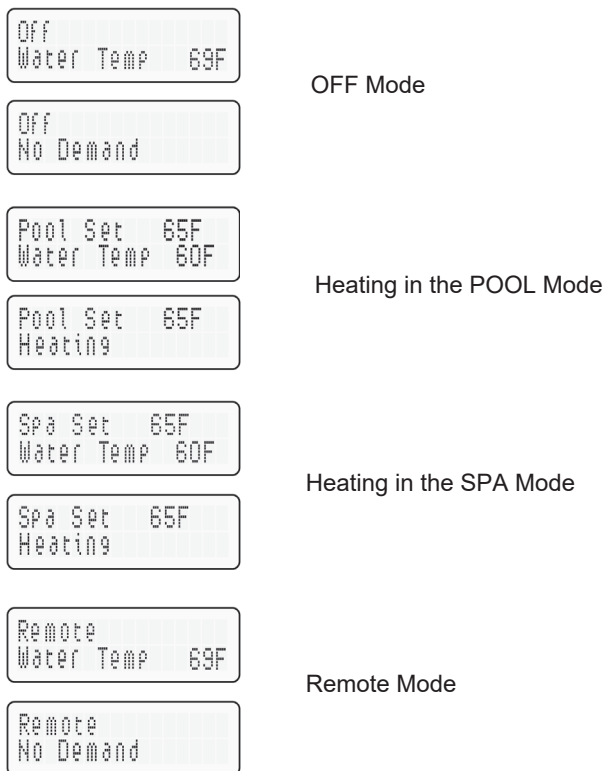

Figure 46. Remote Control Menu - Remote Operation
**⚠ CAUTION: Before installing remote controls to the heaters, read the following:** The digital thermostat model is remote-ready in most cases. The digital liquid crystal display (LCD) shows the actual pool temperature, operating status, and service codes. See Figure 46. The touch pad on the control panel allows you to select the desired pool or spa temperature. It also indicates when a remote system is controlling the heater by displaying **Remote** in the display. When connecting the heater to a remote system, identify whether it is a two- or three-wire remote system. Select the appropriate instruction listed below to properly install the remote to the heater.